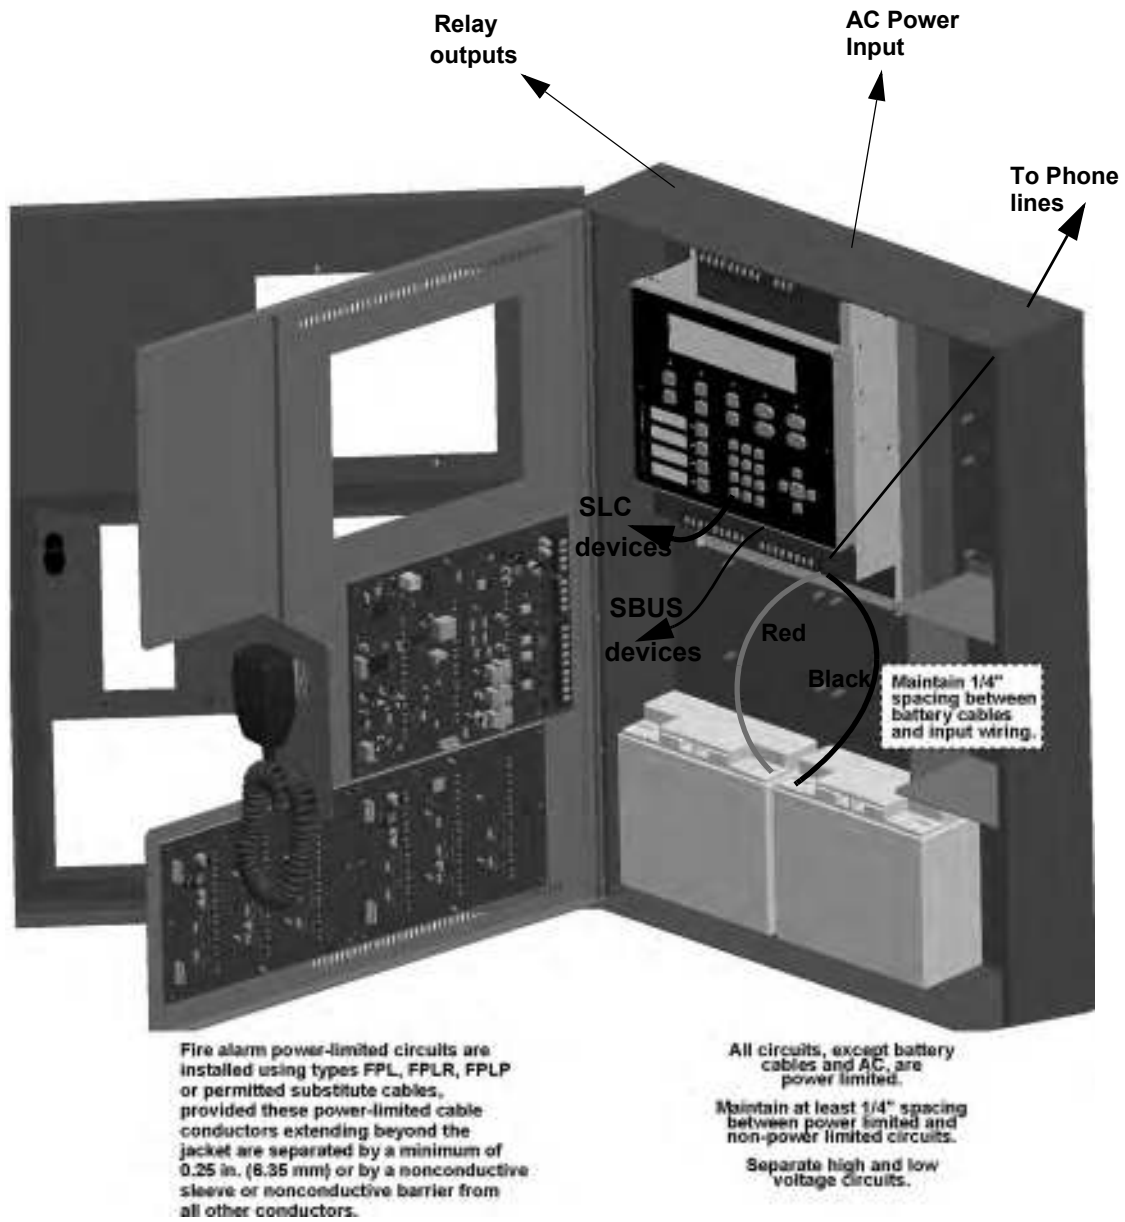

Figure 3-1 Wire Routing Example for IFP-200ECS
- Route the wiring around the inside perimeter of the cabinet. It should not cross the circuit board where it could induce noise into the sensitive microelectronics or pick up unwanted RF noise from the high speed circuits. See Figure 3-1 for an example.